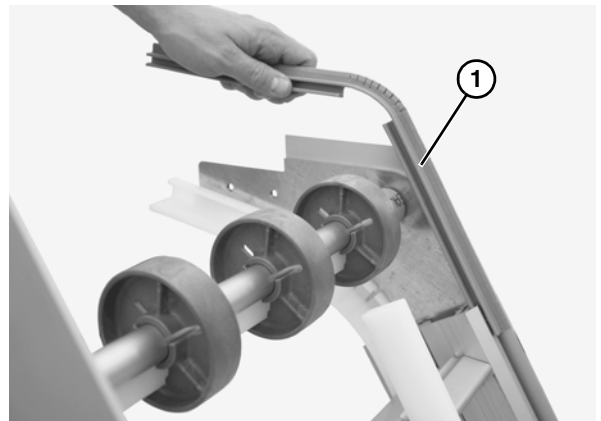

Figure 80
4. Remove upper edge wearstrip (**Figure 80, item 1**). Repeat on other side.